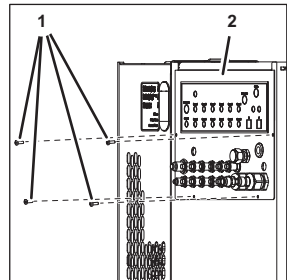

Figure 66
9. Remove the fastening bolts (Figure 66/1) from the connecting plate (Figure 66/2).
24. Attach the connecting plate (Figure 66/2) using the fastening bolts (Figure 66/1).